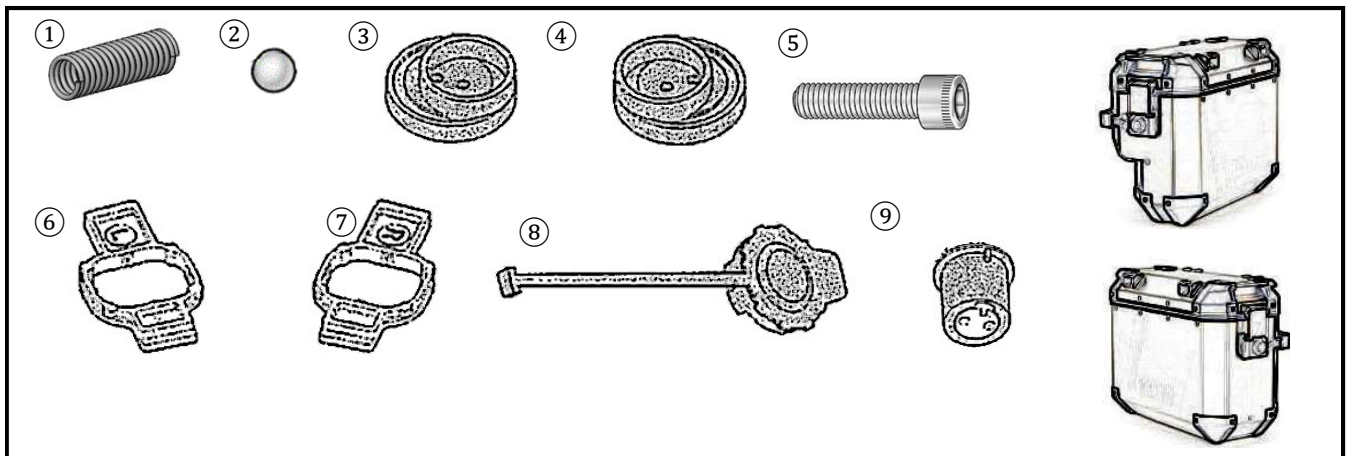

Fig. 1
1. Remove the latch assembly from the inside the Right-side case. Retain the hardware because it will be reused. (Fig. 1)